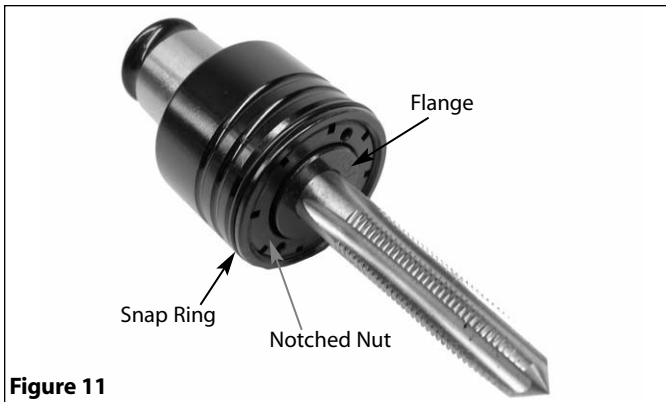

Figure 11
- To adjust tap holder clutch (see Figure 11):